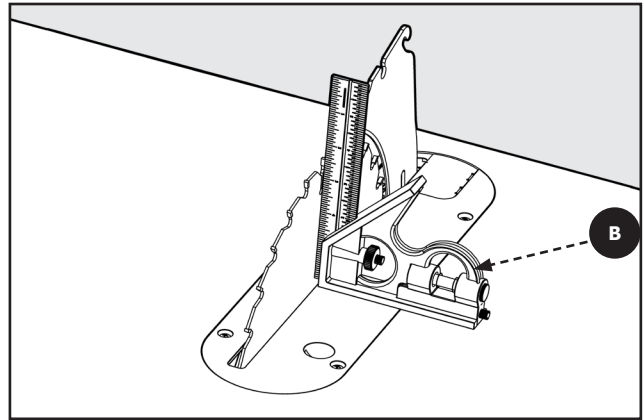

Figure 37
1. Place a combination square **B** against the table and the side of the blade, avoiding contact with the teeth. See Figure 37.
4. Place a combination square next to the blade and check for 90° alignment. Reference Figure 37.